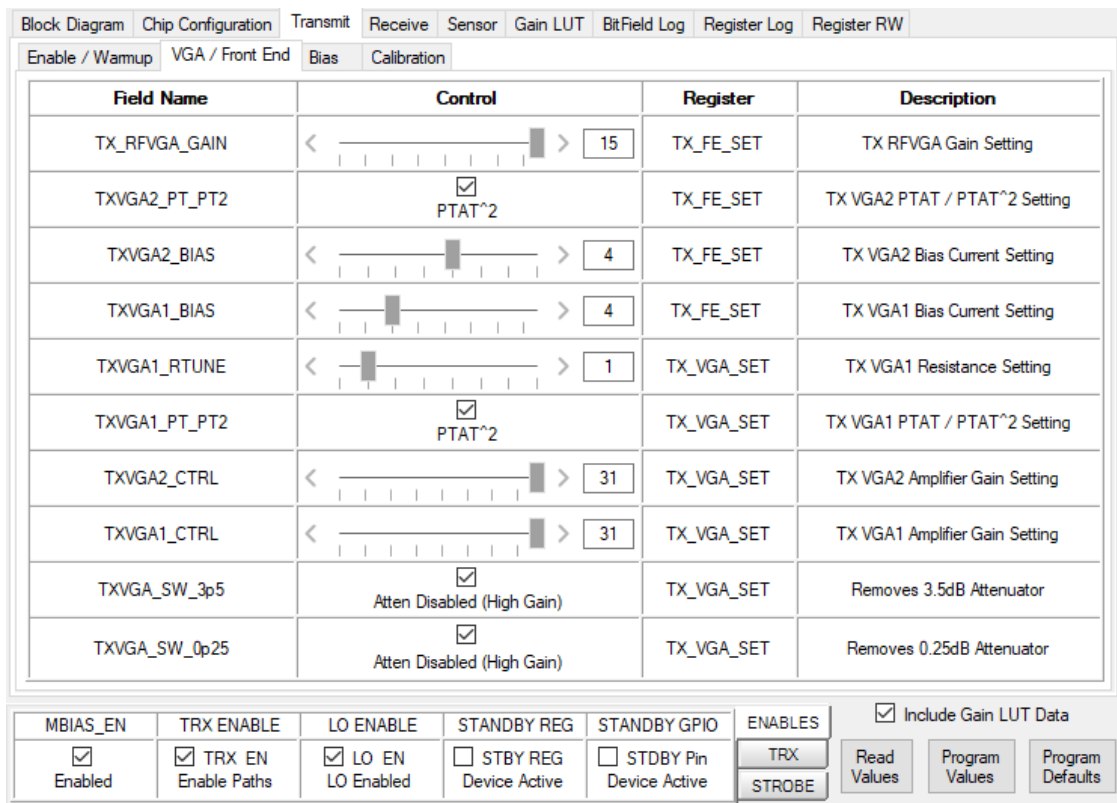

Figure 16. Transmit: VGA / Front End Panel
11. The **VGA / Front End** panel (Figure 16) allows users to manually adjust TX VGA/FE gain settings. Users can also manually adjust bias settings for individual TX building blocks and calibration parameters by selecting **Bias** and **Calibration** subpanel tabs.